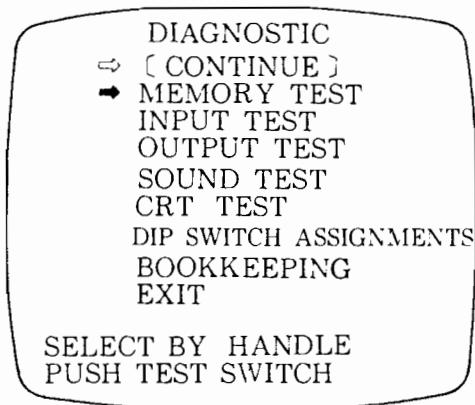

FIG. 1
- (1) Push the test switch and Fig. 1 will be shown on the screen.
- (2) Select CONTINUE or INDIVIDUAL by using the START button.
- (4) When each test is finished in the case of CONTINUE, push the TEST button, and it will automatically go into the following test. If the TEST button is pushed in the case of INDIVIDUAL, FIG. 1 is shown. If you want to end the test mode at this time, bring the arrow to EXIT and push the TEST button, and it will return to the ADVERTISEMENT mode.
Every time the start button is pressed, the bookkeeping test display is repeated. When the test is finished, push the TEST button to end the test (in the case of "INDIVIDUAL", however, the test mode returns to Fig. 1 first).
In the state as shown in Fig. 1, operate the handle to bring the arrow to EXIT and push the TEST button. The self-testing will then end and return to the ADVERTISING mode.